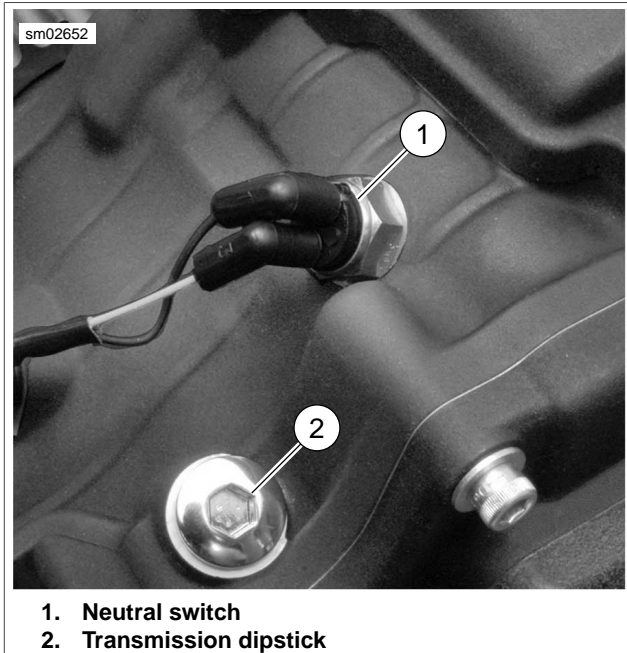

Figure 8-61. Neutral Switch Location
See Figure 8-61. The neutral switch is located on the transmission case. The two terminal switch is normally closed. When the transmission shifter is in neutral and the ignition switch is in the IGNITION position, the switch causes the NEUTRAL indicator light to illuminate.
2. See Figure 8-61. Using fingers, remove connectors from switch studs.